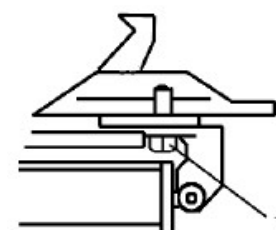

Fig 10
**Note:** After the first 20 days of use, retighten the jaws with tightening screws (B) on the Turntable (Fig 10)